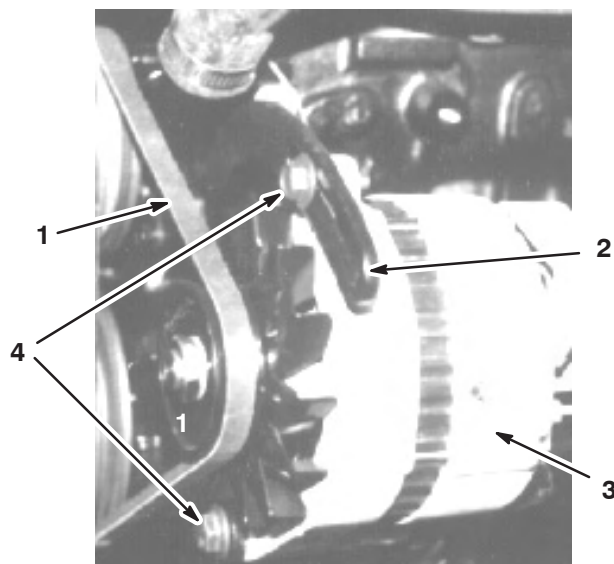

Figure 52
3. Loosen the bolts that secure the brace to the engine and the bolt that secures the alternator to the brace (Fig. 52).